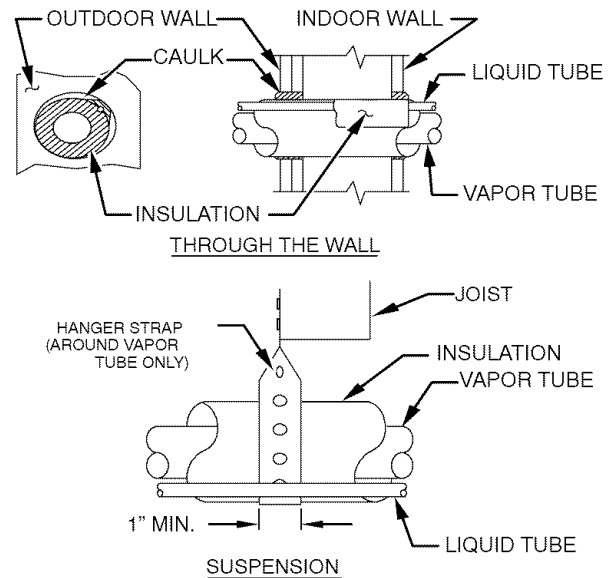

Fig. 2 – Piping Installation
5. When passing refrigerant tubes through the wall, seal opening with RTV or other pliable silicon-based caulk. (See Fig. 2.)
7. Do not suspend refrigerant tubing from joists and studs with a rigid wire or strap which comes in direct contact with tubing. (See Fig. 2.)
9. When necessary, use hanger straps which are 1 in. wide and conform to shape of tubing insulation. (See Fig. 2.)